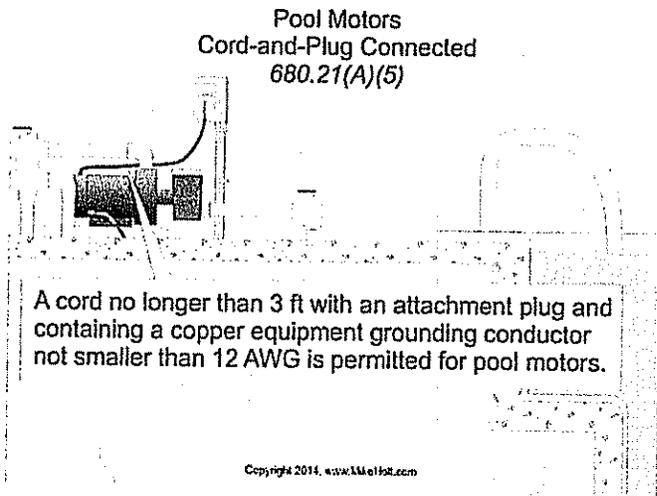

Figure 680-20
(5) **Cord-and-Plug Connections.** Cords are permitted if the length doesn't exceed 3 ft and it contains a copper equipment grounding conductor, sized in accordance with 250.122, based on the rating of the overcurrent device, but not smaller than 12 AWG. Figure 680-20